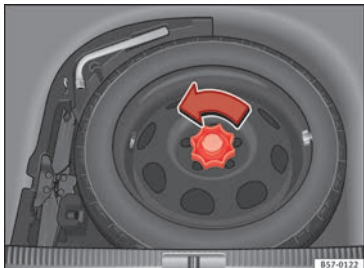

Fig. 230 Compact temporary spare wheel: raised floor panel.
- Turn the thumb wheel anti-clockwise » **Fig. 230.**